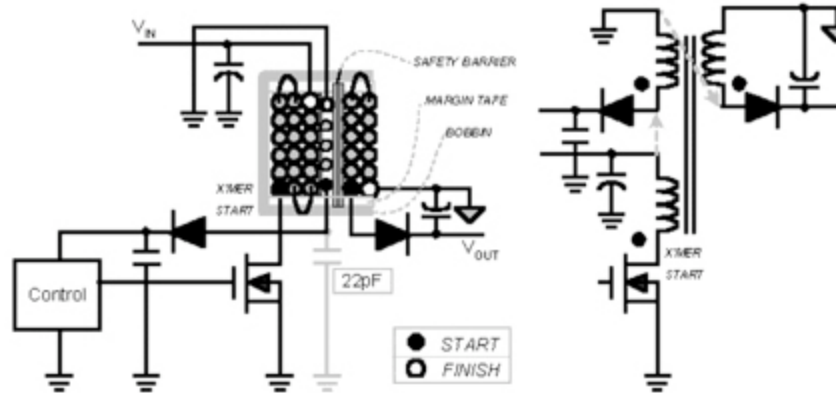

Figure 1: Flyback Transformer of Low Noise Construction
Here are some standard techniques that help prevent the above (see Figure 1)
- There is usually an auxiliary winding present on the Primary side which provides a low voltage rail for the controller and related circuitry. One end of it is connected to Primary ground. Therefore, it can actually double over as a crude Faraday shield if we a) wind it spread out over the available bobbin width, and b) we help it collect and divert more noise by AC coupling its opposite end (i.e. the diode end) to Primary ground, through a small 22pF-100pF ceramic capacitor as shown in Figure 1. We don't need to draw any current from this 'Faraday winding'. So it need not even be used by the circuitry. We could just wrap a few spaced-out turns of thin wire, with one end connected to Primary ground, and the other end with the small 22pF cap to ground
- Comparing the diagram on the left of Figure 1 with its schematic on the right, we see that the start and finish ends of any winding have been indicated. In particular, the start ends have been shown with dots in the schematic. In a typical production sequence, the coil winding machine always spins the bobbin in the same direction for every winding placed, therefore a) all the start ends (dotted ends) are magnetically equivalent (so if one dotted end goes high, the other dots also go high at the same moment, as compared to their opposite ends). We can also see that from the point of view of actual physical proximity, every dotted end of a winding is close to the non-dotted end of the next winding.
- This means that for the flyback transformer of Figure 1, the diode end of the Secondary winding will necessarily fall adjacent to the safety barrier. Therefore, we have a very small  $dV/dt$  on the Primary side, though we have some  $dV/dt$  on the Secondary side, and therefore a small net  $dV/dt$  across the barrier. But this  $dV/dt$  is much smaller than if the Drain end of the Primary winding was adjacent to the safety barrier. The latter situation can be created by winding the transformer the 'wrong' way, i.e. reversing all the start and finish ends shown in Figure 1). With that arrangement, we would have a healthy dose of CM noise injected directly into the chassis/Earth.
- The transformer in Figure 1 has the advantage that the quiet end (ground) of the Secondary is now the outermost layer. That is by itself a good shield. So we may be able to drop the ubiquitous circumferential shield (copper band).